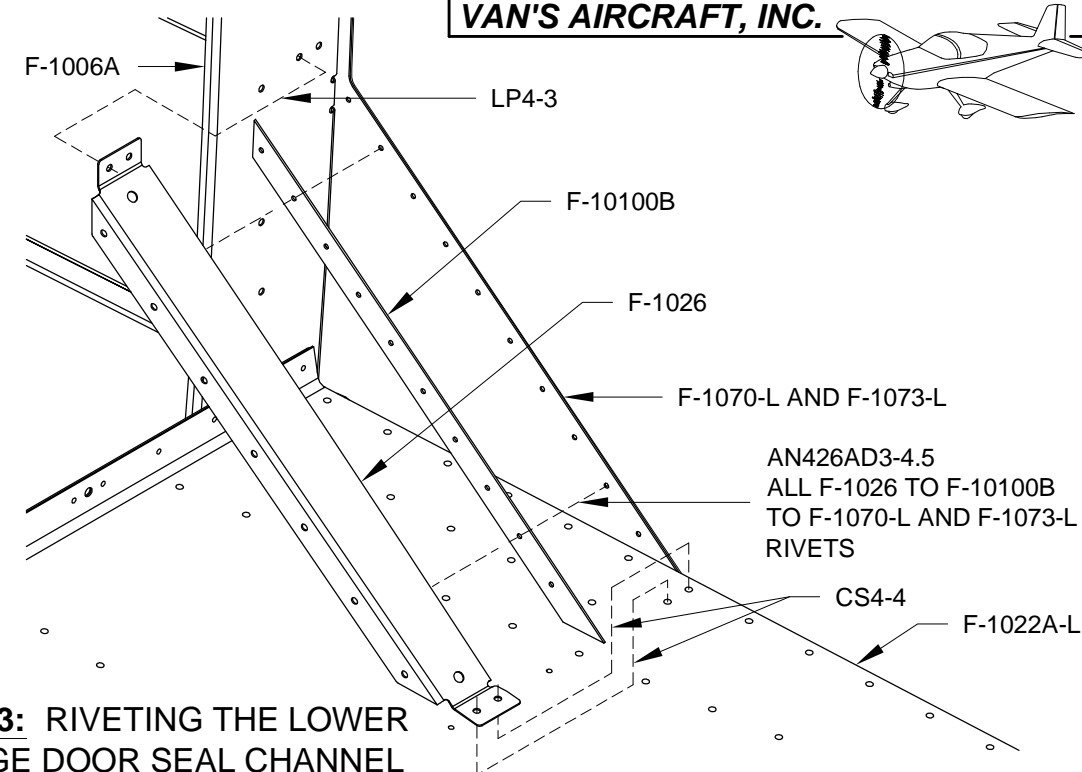

FIGURE 3: RIVETING THE LOWER BAGGAGE DOOR SEAL CHANNEL
Step 3: Rivet the F-1026 Lower Baggage Door Seal Channel and the F-10100B Baggage Door Shim to the F-1070-L and F-1073-L Side Skins using the rivets called-out in Figure 3.